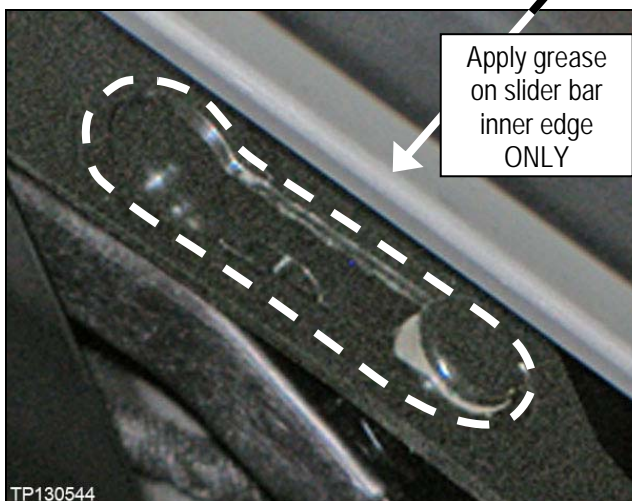

Figure 3b
3. Apply a thin coat of heavy bearing grease or equivalent with a cotton swab or small brush on both slider bars where shown in Figure 3b and 4b.